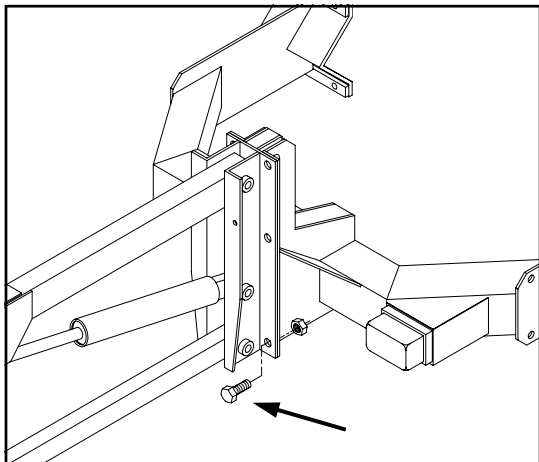
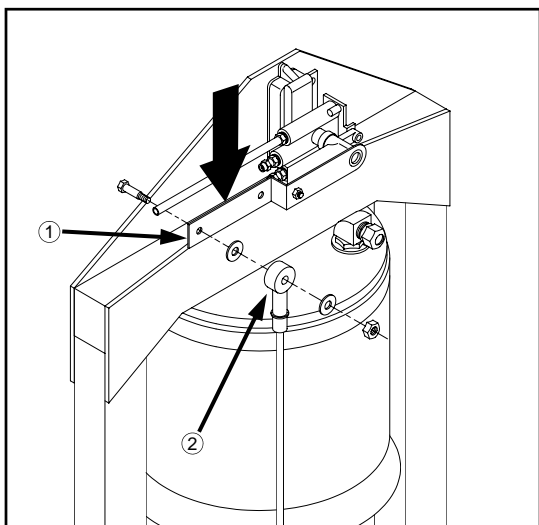
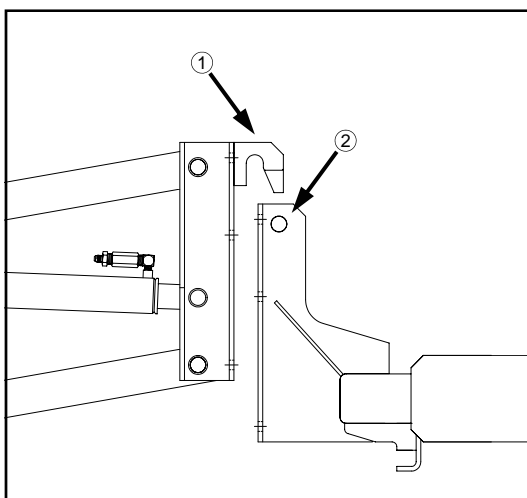
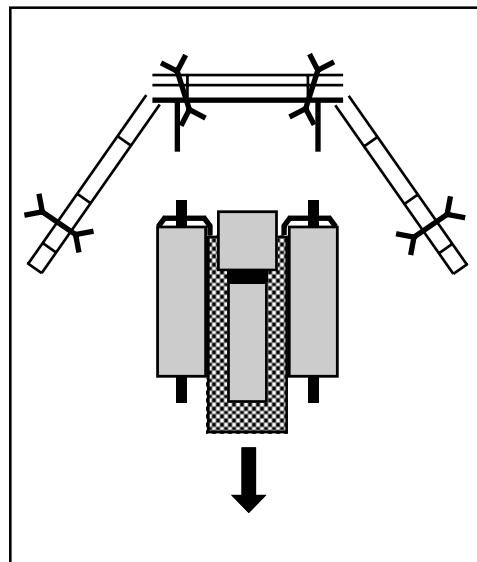

FIG 3.4
FIG 3.5
FIG 3.6
FIG 3.7
Each lift arm is secured in place with six (12 total) heavy duty bolts (fig. 3.4). Remove each bolt from the quick-attach mount. Remove the air control linkage (fig. 3.5, item 2) from the air valve control arm (fig. 3.5, item 1) on each front leg assembly. Push the air valve control arm down to release all the air out of the bag. When the air bag has lowered, the “mounting pin” (fig. 3.6, item 2) on each quick-attach mounting plate should drop clear of the “mounting hook” (fig. 3.6, item 1) on each lift arm. Once clear, back the machine away slowly (fig. 3.7).